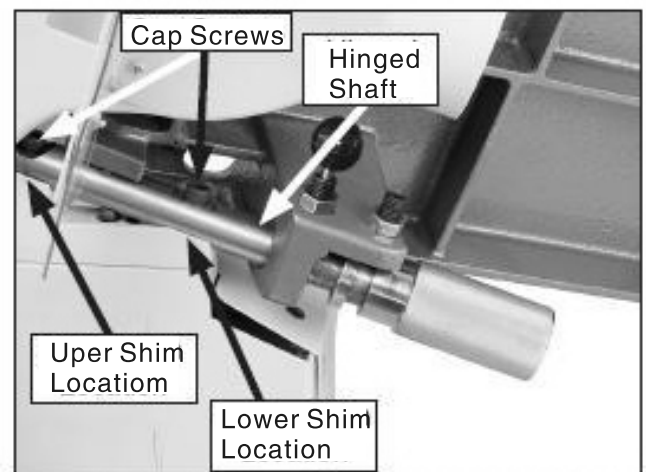

Figure 36. Infeed table hinged shaft.
4. Loosen the cap screws shown in **Figure 36**.